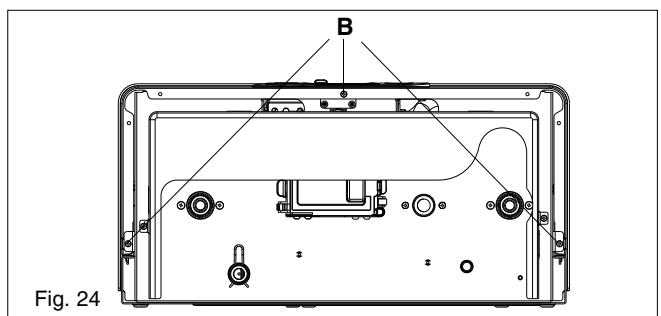

Fig. 24
- lift the casing upward to disengage it from the top locating hooks and then remove (fig. 24)